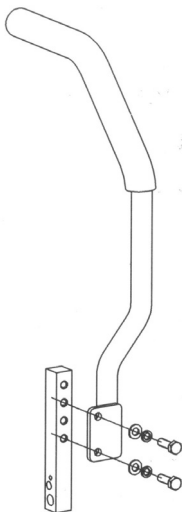

Figure 2
1. Place the right control lever to the outside of the control arm shaft, insert the bolts into the holes with flat washers and spring washers and tighten them (*see Figure 2*).